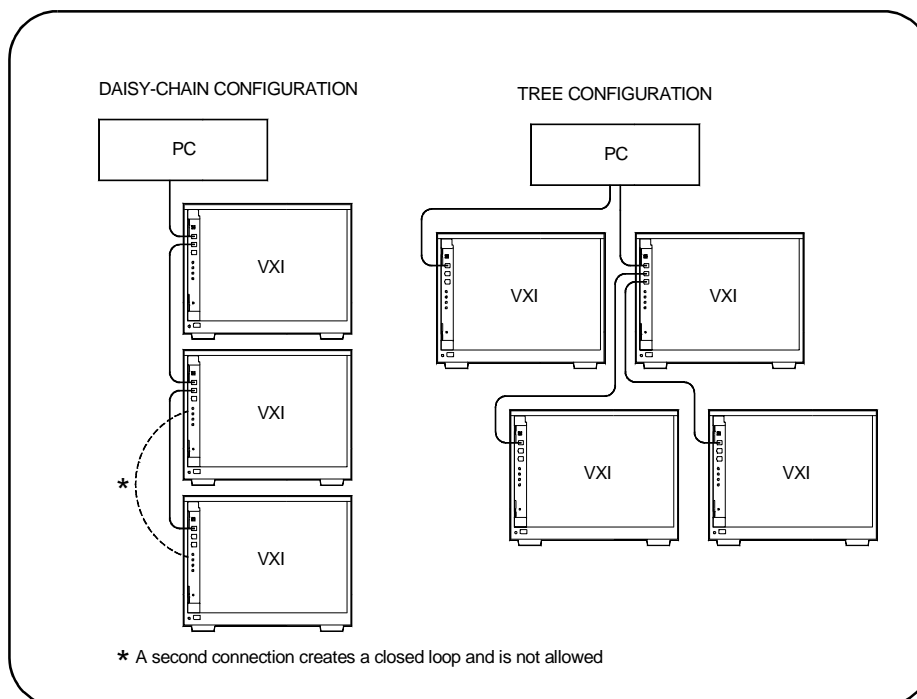

Figure 2-7. IEEE 1394 Interface Configurations.
D. Connect the interface cable from the host adapter to E8491A port A, B, or C. The ports are identical and unused ports are available to connect additional E8491As and other IEEE 1394 devices in a daisy-chain or tree configuration (Figure 2-7). Notice that there can be no closed loops.